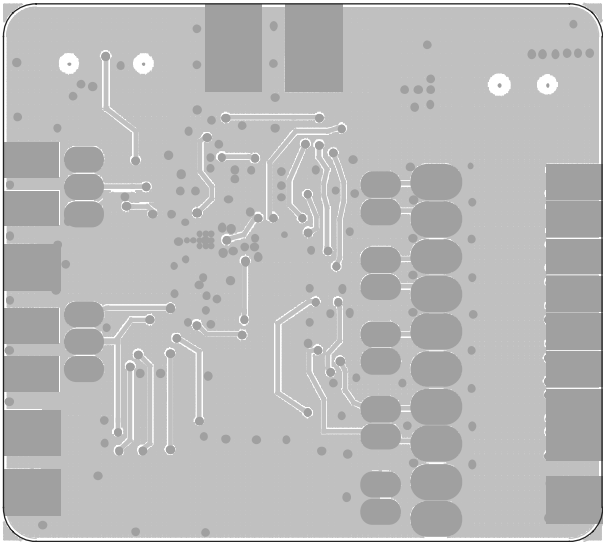
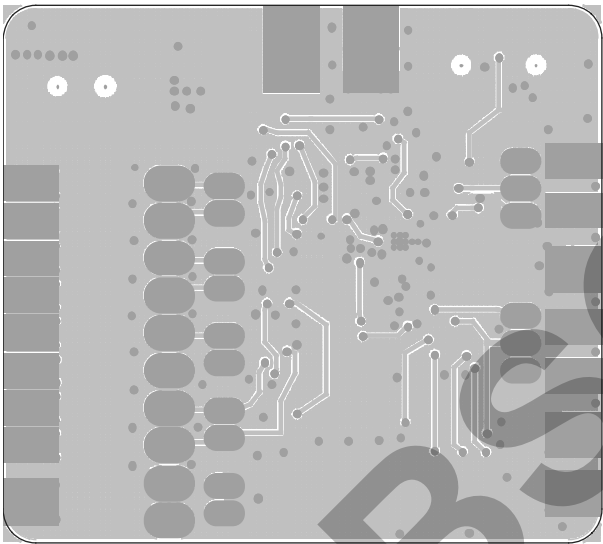

Figure 44. Bottom Layers
Figure 45. Mirrored Bottom Layers
Figure 44 shows the bottom layers, including bottom copper, bottom solder mask, and multilayer (vias).
Figure 45 shows the mirrored bottom layers.
11. Use a solid polygon plane on the other side of the PCB for the area of the vias that are placed on the thermal pad of the chip (see Figure 44 or Figure 45).